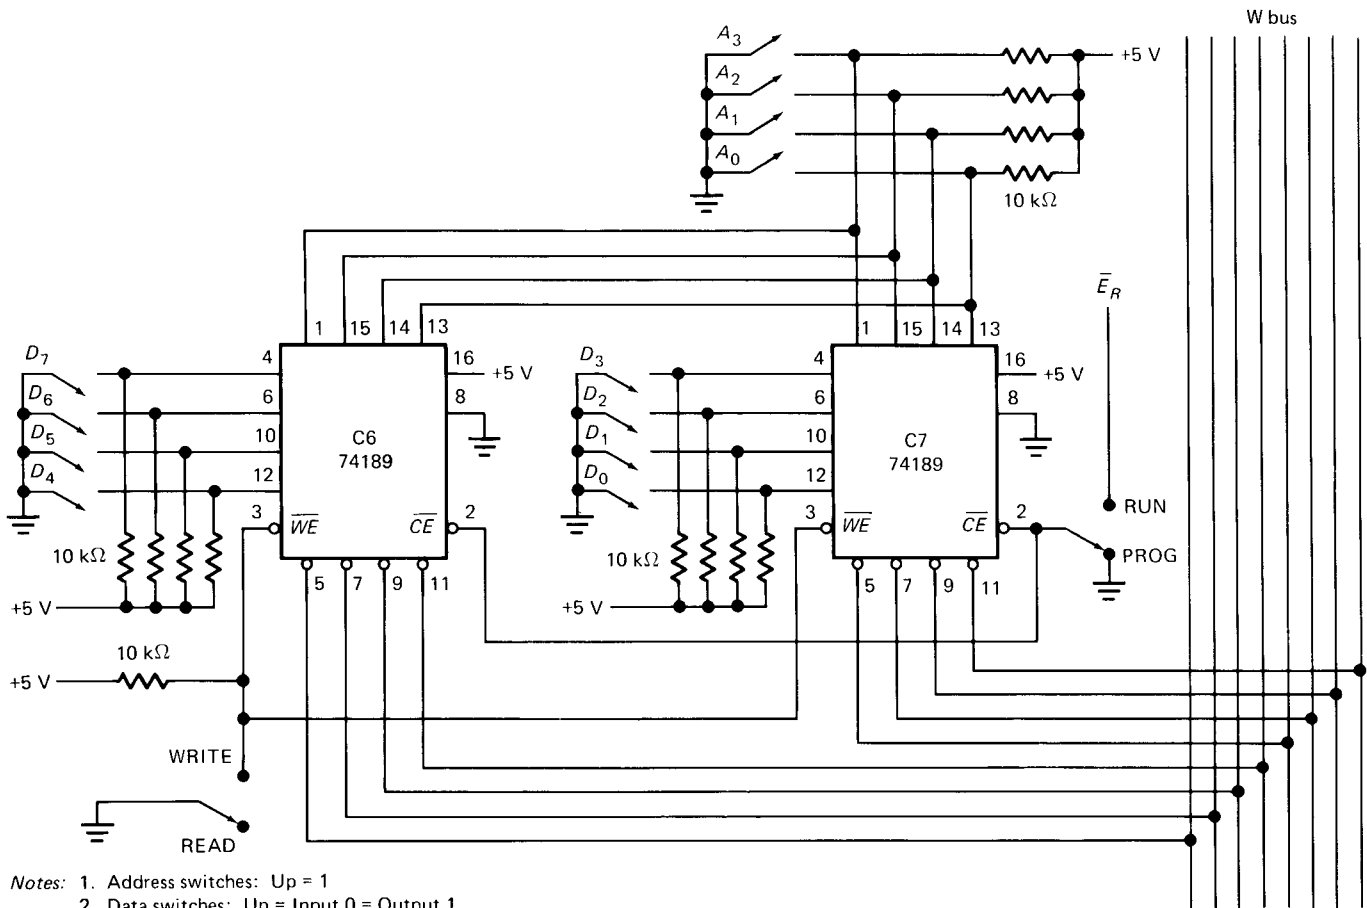

Fig. 9-9
- 9-5. Use U (up) and D (down) to program the TTL memory of Fig. 9-9 with the following data:
- 9-6. The following data is to be programmed into the TTL memory of Fig. 9-9: